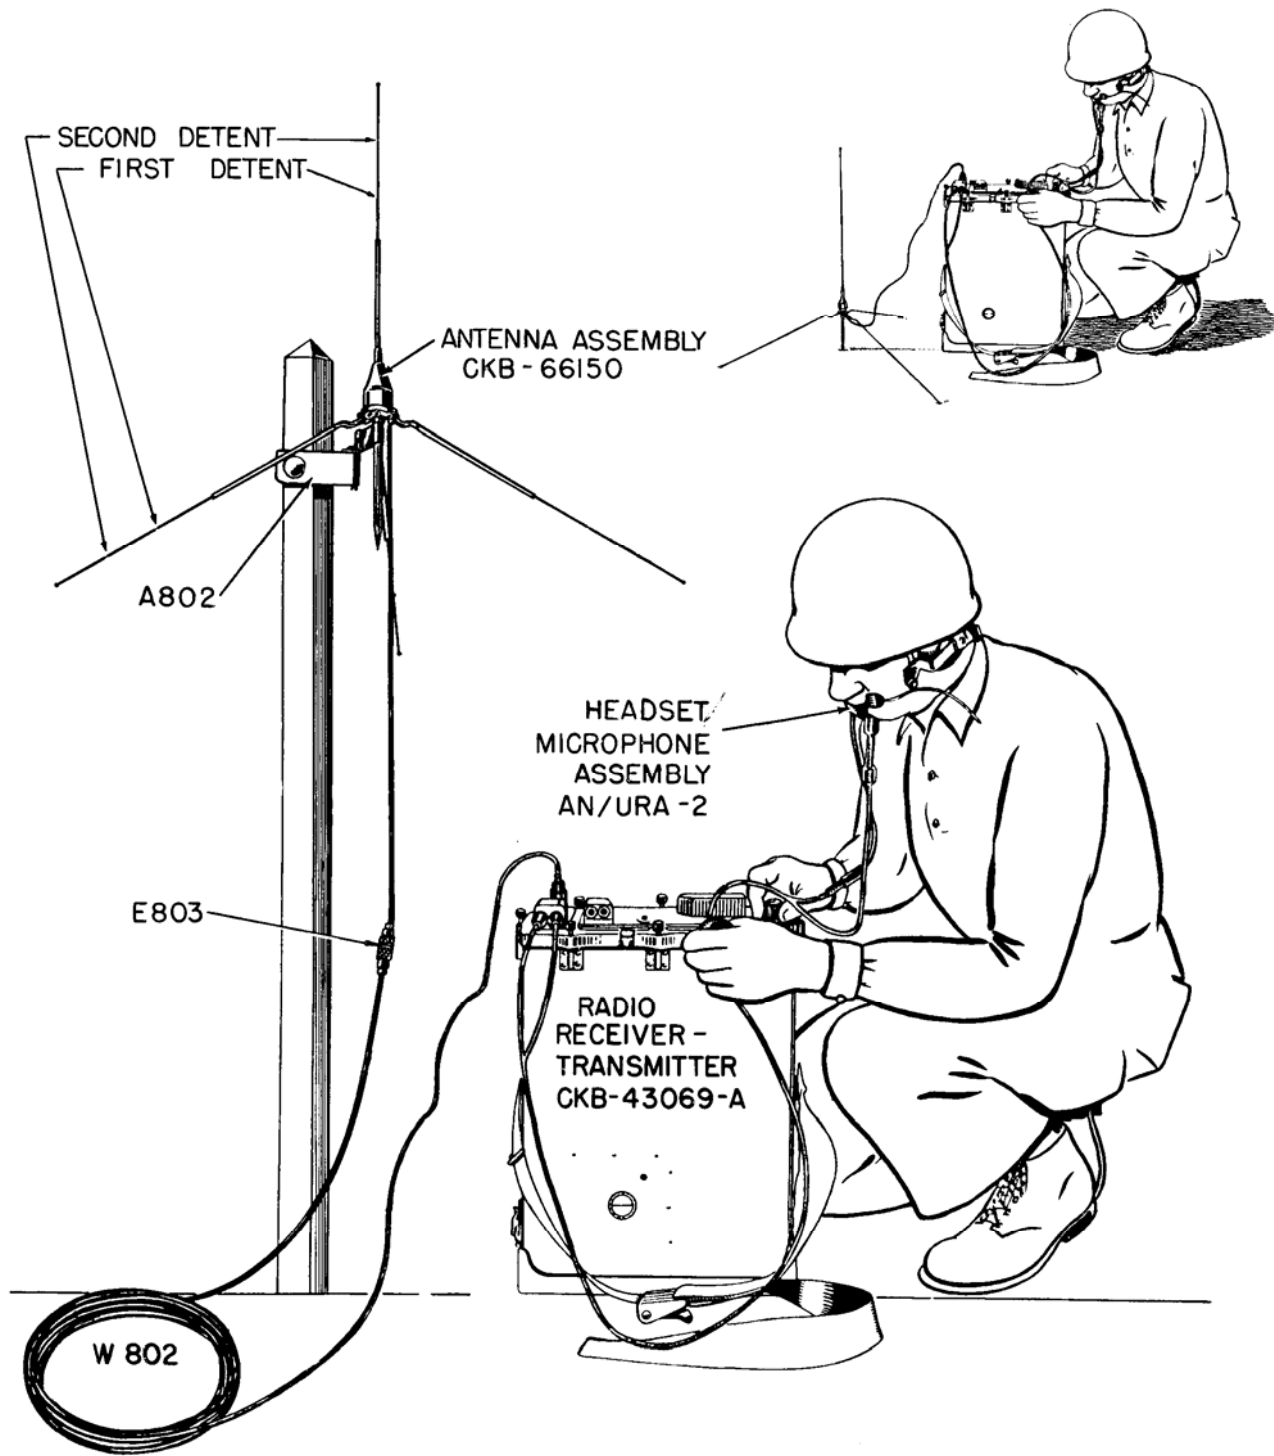

Figure 4-5. Fixed Operation of MAW-1 Equipment
**c. SETUP FOR FIXED OPERATION.** (See figure 4-5.)—Fixed operation is used where it is desirable to set up a fixed station for any length of time. This permits using the complete Antenna Assembly CKB-66150 which gives the installation more flexibility, as well as increased efficiency.
Use of the Antenna Assembly offers the advantage of higher elevation or a more desirable location for the Antenna. It is mounted away from the equipment, either by the tree clamp A802, or by inserting the ground spike in the ground, as illustrated in figure 4-5. Where extreme elevation or remote antenna position is desired, the extension cable W802 and connector E803 may be used.
Antenna Adjustment	The telescoping rod of the vertical antenna element or all the rods of the Antenna Assembly must be adjusted to the correct length for the channel being used according to the following: (See figure 4-5.) For: 115 to 134 mc, the rods must be fully extended. 134 to 142 mc, the rods must be at second detent position. 142 to 156 mc, the rods must be at first detent position. The fully collapsed position is used only for storage.
(1) Keep the microphone adjusted properly and DON'T SHOUT!
(2) Keep the vertical radiator on the antenna clear of bushes, underbrush, and any foreign objects. Keep in the clear and elevated as much as possible.
(3) The Antenna Assembly should always be elevated to get maximum range; hold it up in the air by grasping the ground stake, or use the tree clamp to mount on tree or bush.
(4) Conserve your battery; keep transmissions short.
(5) Operate the receiver at a comfortable volume and keep headset pads over ears to exclude outside noise.
(6) When red charge indicator ball is down in the battery, the receiver may operate, but the transmitter may not. Recharge battery when either white ball sinks.
(7) The detent action of the channel selector switch is positive, but be certain that the pointer is not in between channel numbers.
(8) To enable the operator to set the antenna length correctly for any channel without divulging the channel frequency, pencil a number next to each channel number on the control panel—a number 1 for channels requiring the antenna to be extended to first detent; a number 2 for extension to the second detent; a number 3 for full extension. (See figure 4-5.)
(9) All plugs on extension cables should be inserted clear to the shoulder of the plug.
(10) In order that the equipment will remain submersion proof, keep the thumb screws, holding the control panel, screwed down tight and the bottom plate on the carrying case securely fastened.
(11) The equipment should be operated in an upright position, otherwise the battery life will be shortened.